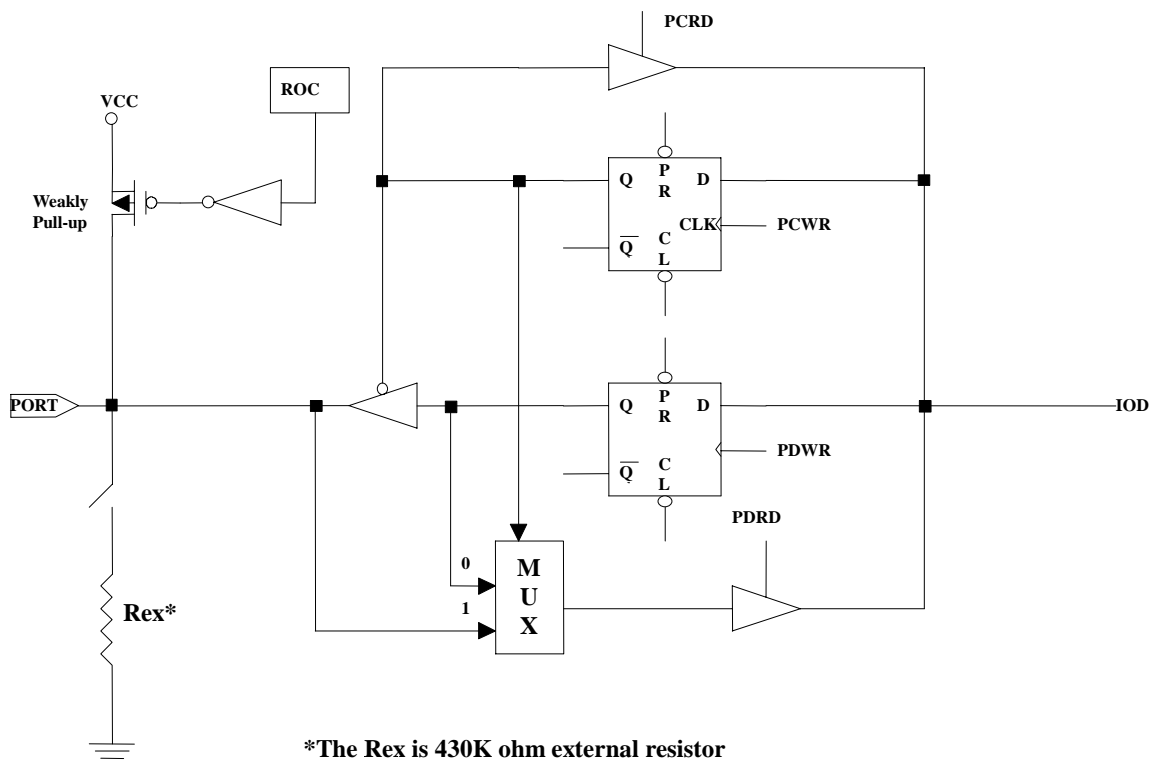

Fig. 8 The Circuit of I/O Port with R-option(P50,P51)
Setting the ROC to "1" will enable the status of R-option pins (P50~P51) that are read by the controller. Clearing the ROC will disable the R-option function. If the R-option function is selected, user must connect the P51 pin or/and P50 pin to VSS with a 430K Ω external resistor (Rex). If the Rex is connected/disconnected, the status of P50 (P51) is read as "0"/"1". Refer to Fig. 8.
The I/O registers and I/O control registers are both readable and writable. The I/O interface circuits for Port 5 and Port 6 are shown in the following Figures 6, 7(a), 7(b), 7(C) and Figure 8.